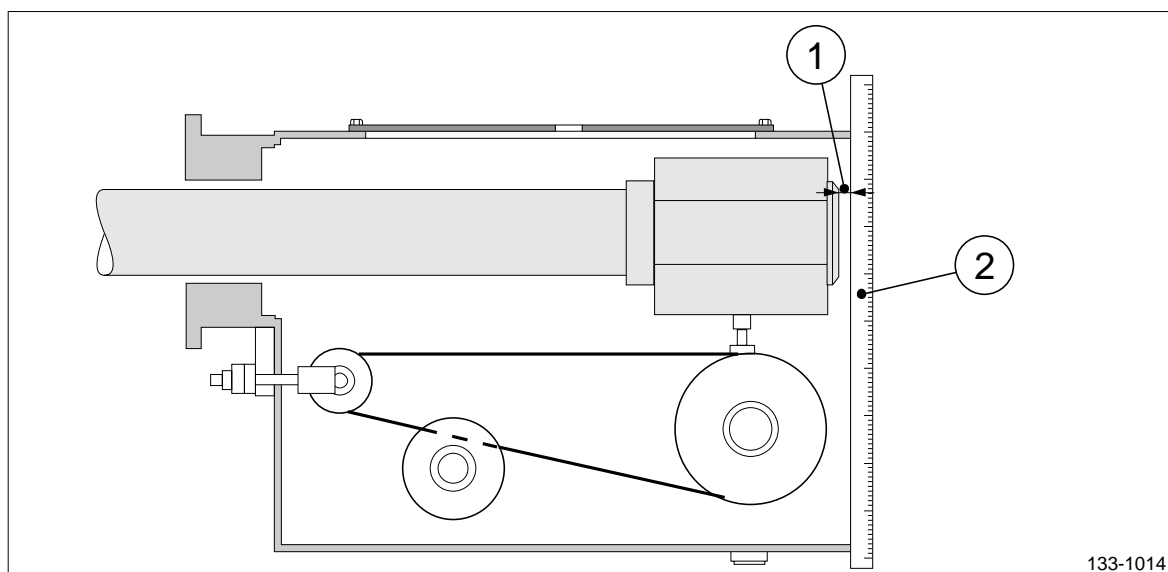

Figure 3 Position of the OD-box ring in mechanical end position ahead.
8. Inspect that the position of the OD-box ring does not exceed the maximum astern position, see value stated on the OD-box Assembly drawing and in figure 3. Measure the distance from the OD-box ring to the forward end of the OD-box housing. Put a ruler over the opening and use it as a straight-edge to measure against. Note: do not measure from the washer, see figure 3.